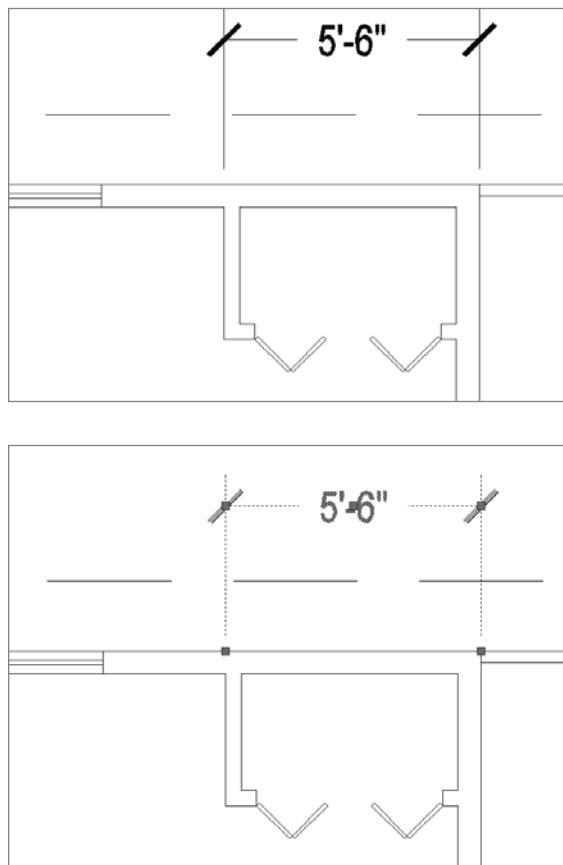

FIGURE 12.22 The dimension attached to the cursor (top) and the grips associated with a dimension (bottom)
5. At the `Specify dimension line location or:` prompt, click a point above the roof line to place the dimension in the drawing (see the top of Figure 12.22). Also notice that the left extension line starts perpendicular to the wall you picked.
- Click anywhere on the new dimension. The dimension becomes dashed and five grips appear (see the bottom of Figure 12.22).